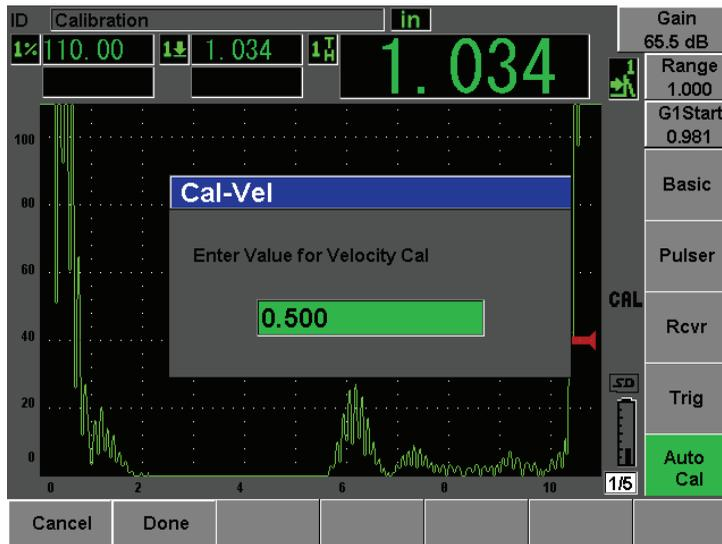

Figure 10-13 Entering the Velocity Cal thickness value
15. Adjust the value to match the known thickness of the gated indication (0.500 in. in this example), and then choose **Done** to complete the calibration process (see Figure 10-13 on page 168).